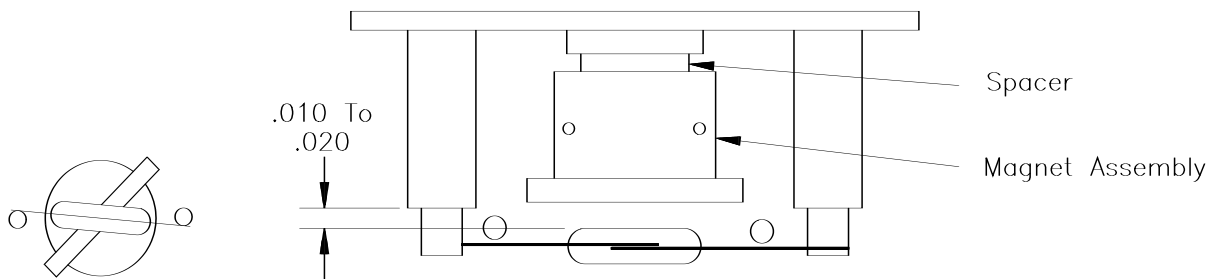

FIGURE C-1. Reed switch assembly
- E. Solder the new switch onto the sides of the switch mount terminals (form a loop in the relay leads to obtain proper lead length -- **DO NOT CUT THE RELAY LEADS.**) Measure the distance between the bottom of the rotating magnet and the top of the switch envelope, as shown in FIGURE C-1. The spacing should measure between 0.01 and 0.02 inches.